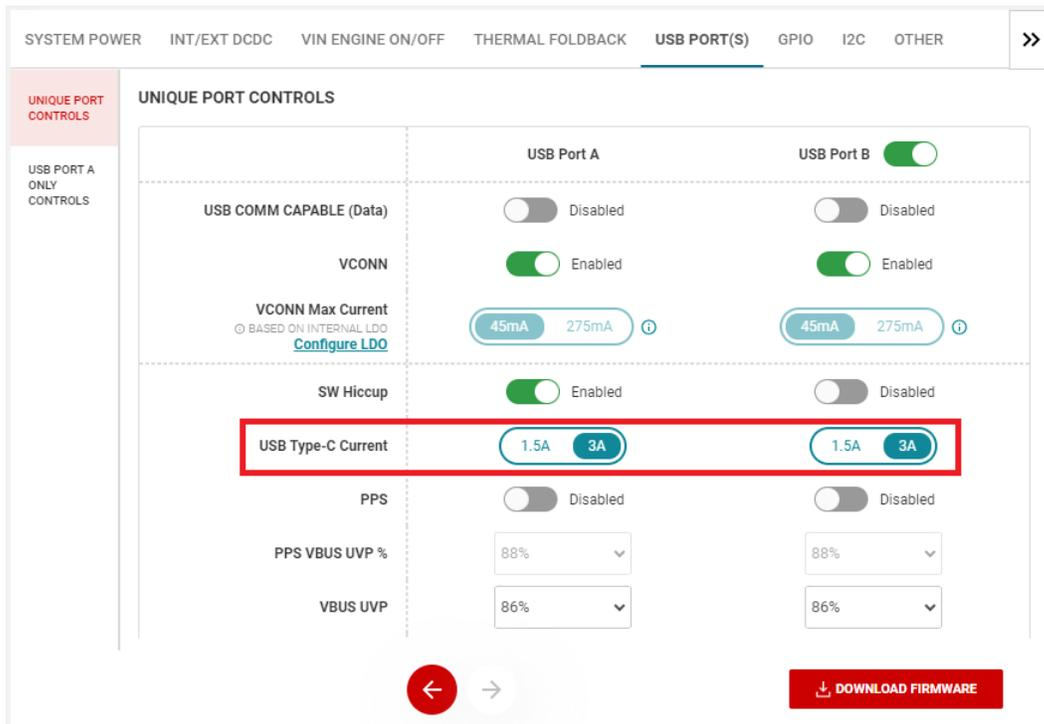

Figure 3-11. USB Type-C Current – Advanced Configuration
In the event where one PD Sink and one non-PD Sink are connected to the ports, the Equally Divided System Power is initially distributed to each Sink. This connection takes roughly 8.5 seconds for the TPS257xx-Q1 firmware to identify a non-PD Sink. Once a non-PD Sink is identified, the SPM Engine can reallocate and redistribute system power; Non-PD USB-C Power is distributed to the non-PD Sink and the remaining power (the difference between the Total USB VBUS Power and the Non-PD USB-C Power) is distributed to the PD Sink. The Non-PD USB-C Power can be selected by configuring the USB Type-C Current parameter from the GUI's USB PORT(S) window (see Figure 3-11).